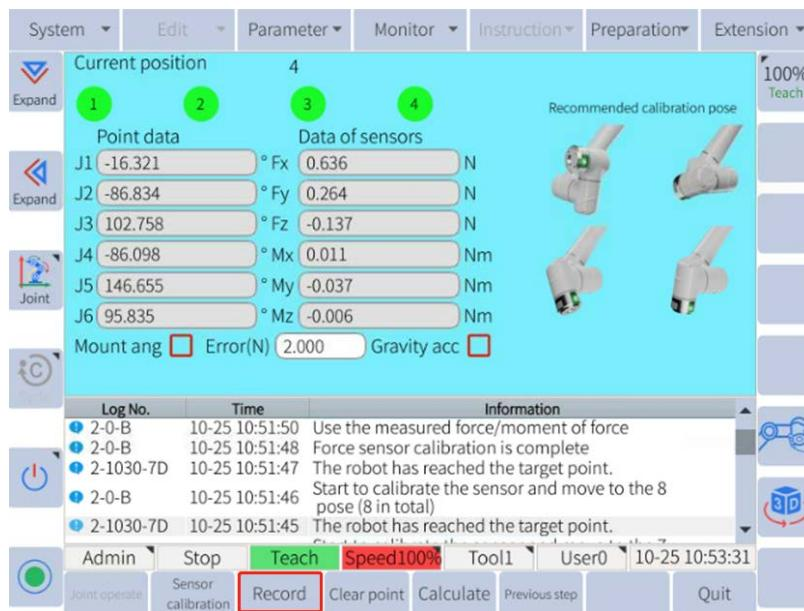

Figure 6-39: Record
- Click 1 (by default) and enter the pose adjustment display. Hold the servo and adjust the pose to be reasonable by turning around the joint (mainly the 4th, 5th and 6th joint). Click **Record** in the bottom menu bar, as shown in **Figure 6-39**.
- (b) Click 2 and enter the pose adjustment display. Hold the servo and adjust the pose to be reasonable by turning around the joint (mainly the 4th, 5th and 6th joint). Click **Record** in the bottom menu bar, as shown in Figure 6-39.